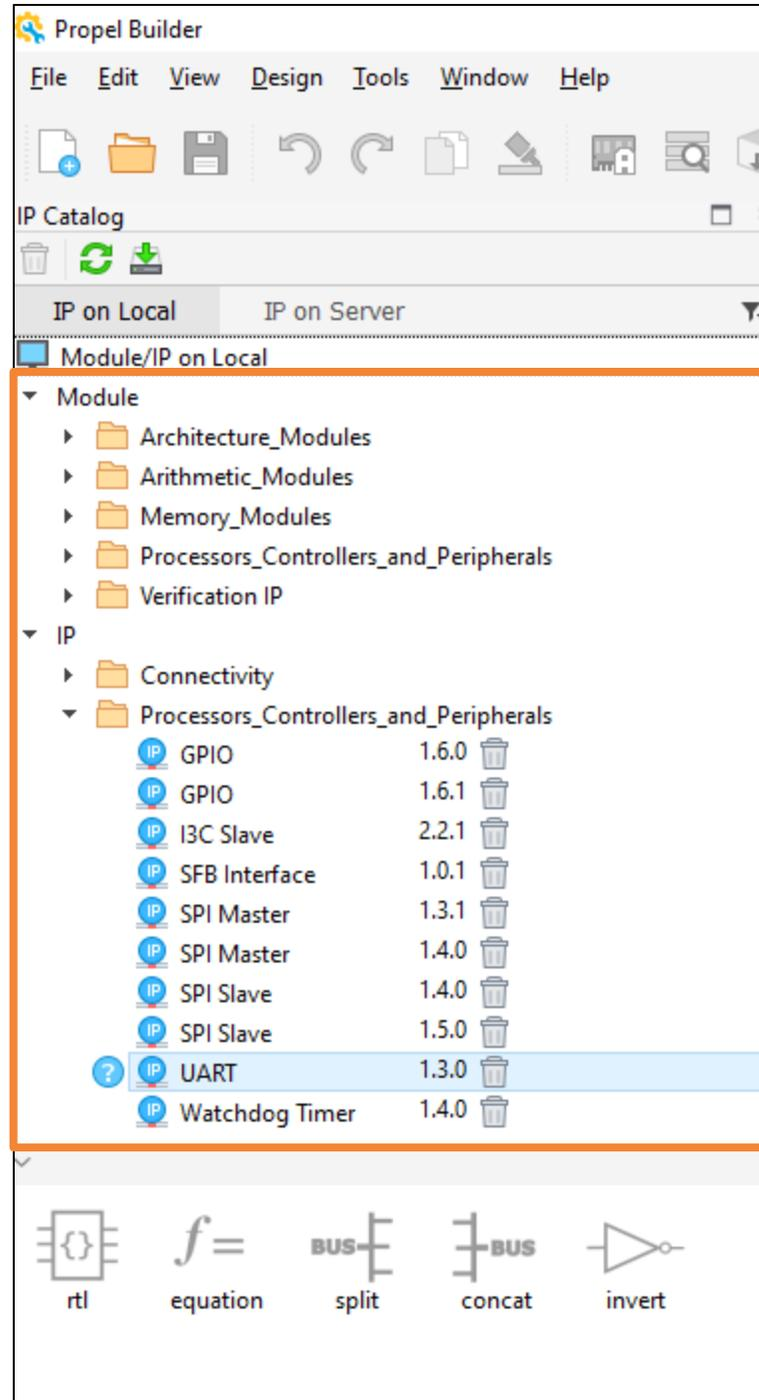

Figure 2.39. IP Catalog
1. Being installed successfully, the new IP is shown in the **IP on Local** tab (Figure 2.39).